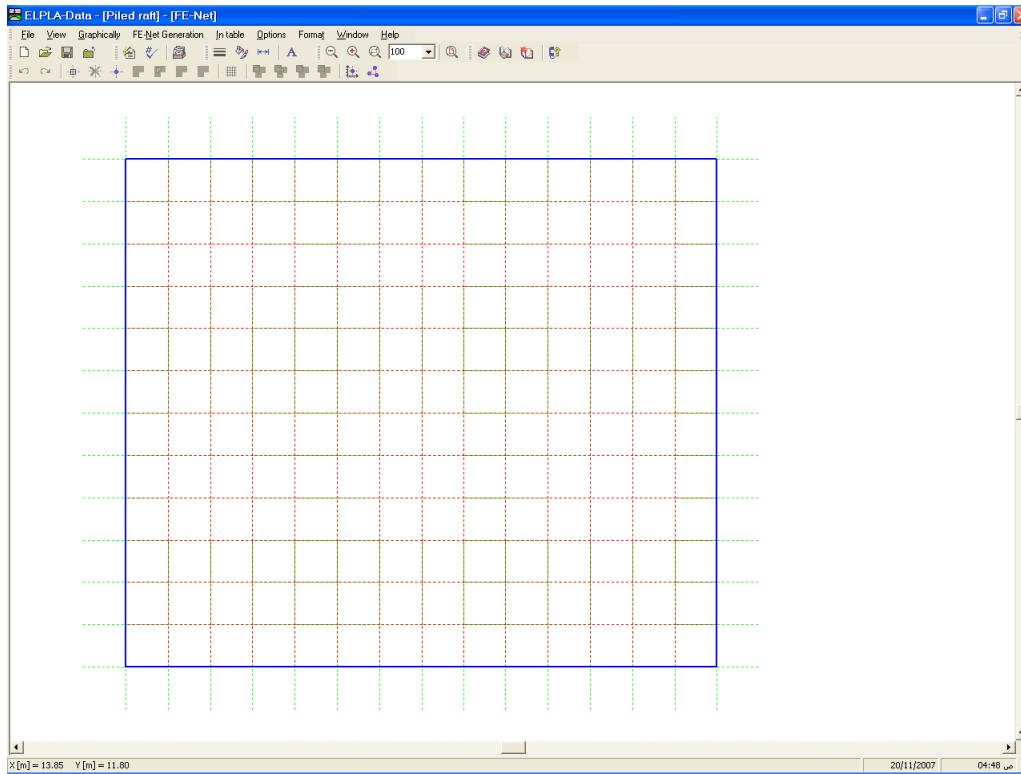

Figure 12-12 FE-Net of a rectangular slab on the screen
ELPLA will generate a FE-Net for a rectangular area of 24.5 [m] length and 21 [m] width with square elements of 1.75 [m] each side. The following embedded program in Figure 12-12 appears with the generated net.
- Choose "Save FE-Net" command from "File" menu in Figure 12-12 to save the data of the FE-Net
- Choose "Close FE-Net" command from "File" menu in Figure 12-12 to close the "FE-Net" embedded program and return to the main window of *ELPLA-Data*